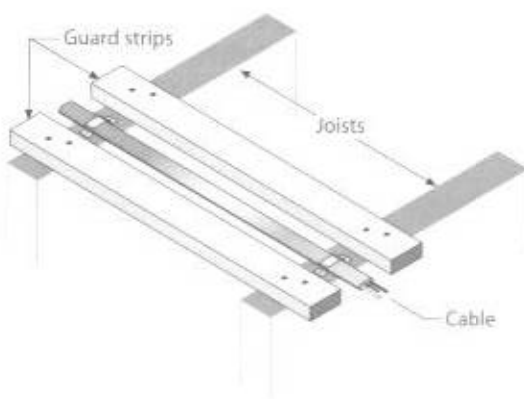
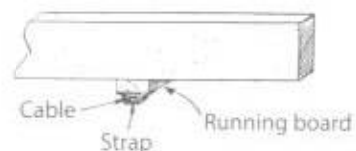

Fig. 11-4 In attics, guard strips may be used. If run through bored holes, the cable needs no further protection.
Fig. 11-3 Exposed cable running across timbers must be protected by a running board to prevent damage.
**Protecting exposed wiring** If the finished wiring is exposed (for example in unfinished basements), see to it that the cable is protected against later mechanical injury. The easiest way is to run it along the side of a stud or joist. If run at angles to such timbers (unless the cable runs through bored holes), a running board must first be installed (see Fig. 11-3). The NEC is not specific about the size of this running board but the so-called "1 by 2" is fine for the purpose. The cable must never be run across free space, and must follow the surface of the building except when mounted on running boards. In unfinished basements, it may be run through bored holes through the center of joists (cables 8-3 AWG or 6-2 AWG or heavier may be mounted directly across the bottoms of joists without a running board). Where run parallel to framing members, run cable on sides,  $1\frac{1}{4}$  inches or more from face. In accessible attics, cable may run at an angle to joists if protected by guard strips at least as high as the cable, as in Fig. 11-4. Only where necessary to provide protection against physical damage, Type NM cable can be drawn into any raceway, with a bushing installed on the raceway ends.